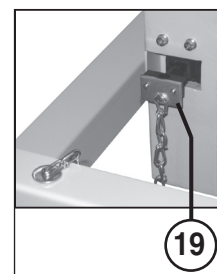

fig. 3
- 19 = Safety switch activator (fig. 3)